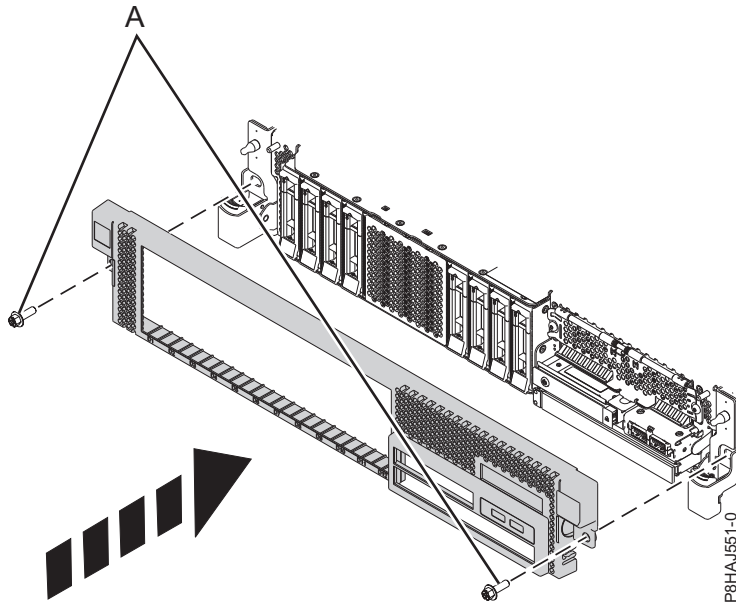

Figure 13. Installing the front cover
3. Close the release latches by pushing in the direction shown in Figure 13 on page 33. The cover snaps into place and has an indentation where you can hold onto it more easily.
4. Replace the shipping screws (A).